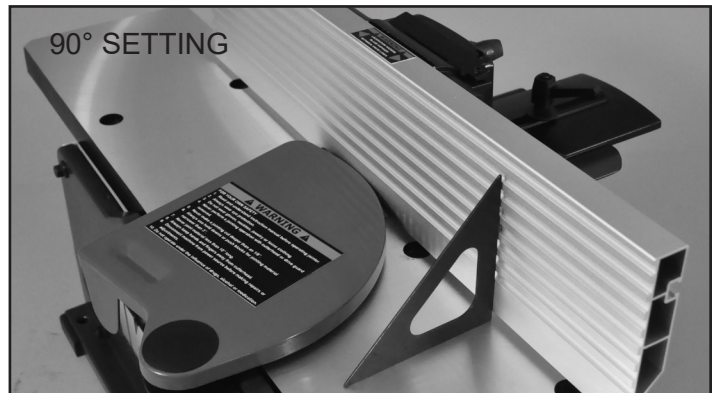

FIG. 19
4. Put a square on the table with one end against the fence and adjust the fence until it is exactly 90 degrees to the table. FIG. 19.